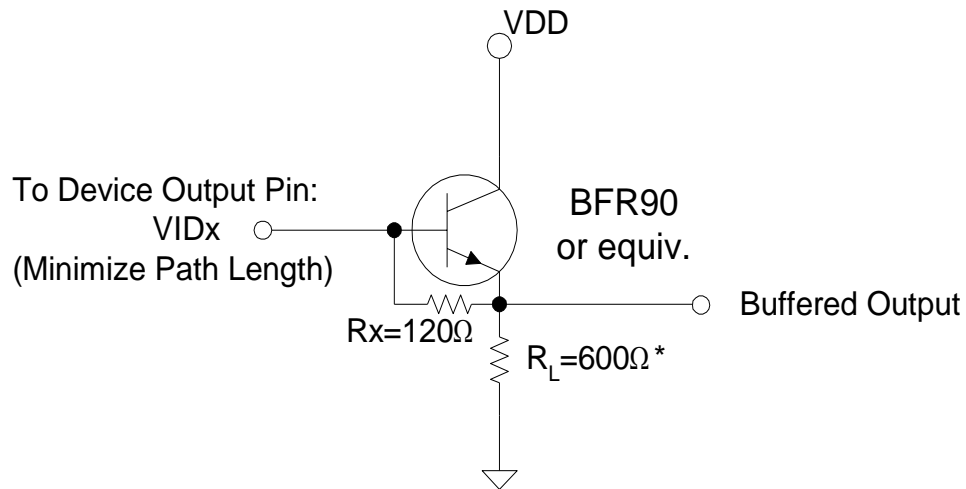

Figure 21: Typical Output Bias/Buffer Circuit
1. A current sink must be supplied for each output. Load capacitance should be minimized so as not to limit bandwidth. The values of  $R_x$  and  $R_L$  should be chosen to optimize for a given operating frequency, but.  $R_x$  should not be less than 75 Ohms. The values shown in Figure 21 below represent one possible solution.